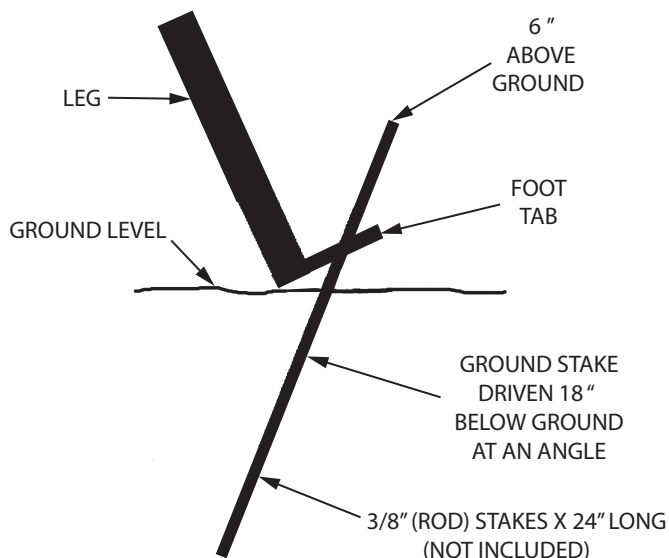

FIGURE 14
4. Drive (4) ground stakes (not included) through the holes in the (4) feet. Stakes should be approximately 24" in length with 18" in ground and should be driven in at an angle. **SEE FIGURE 14.**